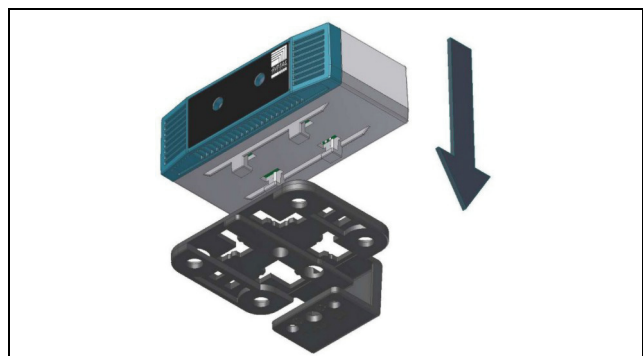
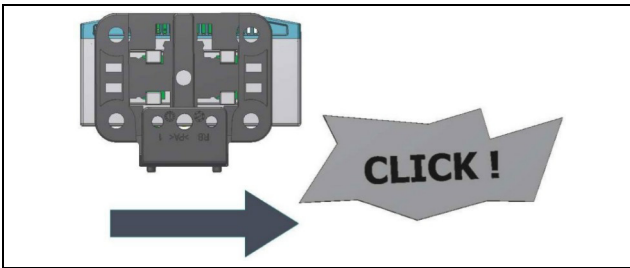

Fig. 3: Attaching the sensor to the bracket
Fig. 4: Latching the sensor into place on the bracket
- Then place the airflow sensor on the bracket (fig. 3) and latch it in place (fig. 4).